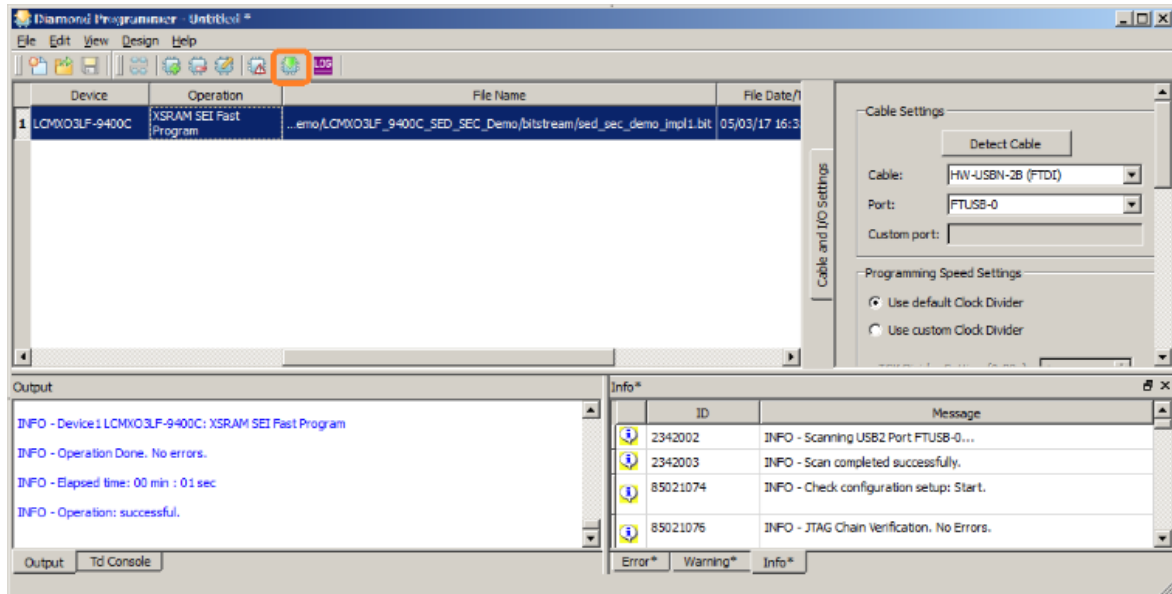

Figure 6.12. Reloading Design Bitstream in Background through JTAG
- Click the **Program** button as shown in Figure 6.12 to initiate background programming of the device. The original design bitstream is loaded after the software reports “Operation: successful”.